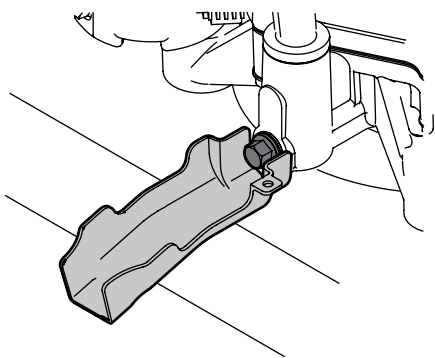

Figure 4-6
4. Snap the small end of oil drain sleeve onto the oil sump. See Figure 4-6.